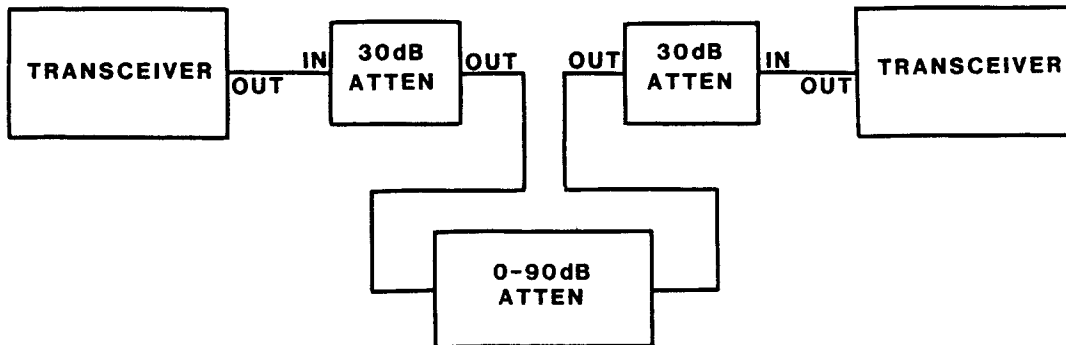

FIGURE 12.7-1. Transceiver Connections.
4. Connect both transceivers as illustrated in Figure 12.7-1.